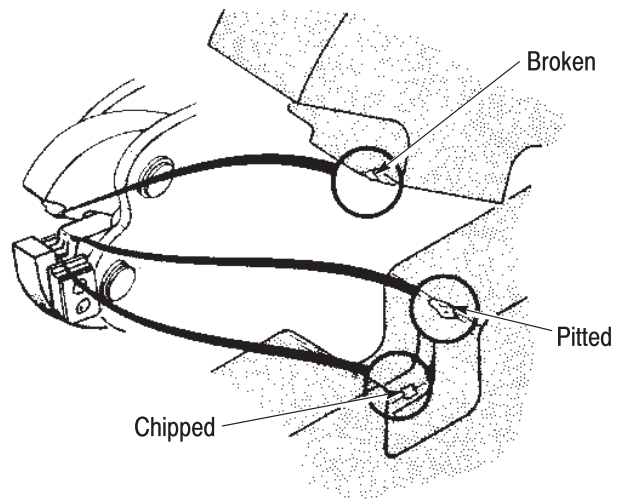

Figure 6
B. Inspect the die closure surfaces of the head for broken, pitted, or chipped conditions. Although dies may gage within permissible limits, worn or damaged die closure surfaces are objectionable and can affect the quality of the crimp. Examples of possible damaged die closure surfaces are shown in Figure 6.